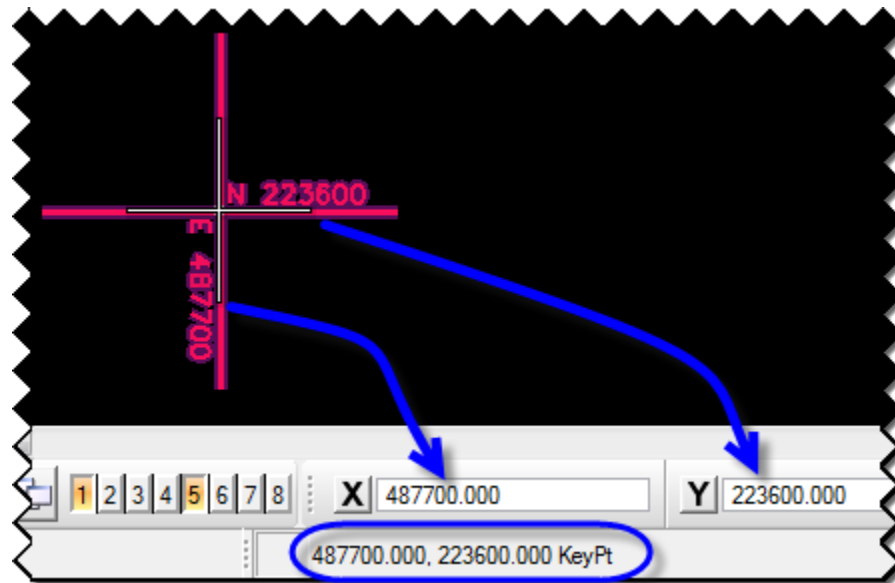

Figure 38 - XY and Northing Easting
5. **Double-check** (Figure 38), zoom to a coordinate grid cross and snap to it, the XY-axis in the **MicroStation** command window should display the same numbers as the northing and easting of the coordinate grid cross.